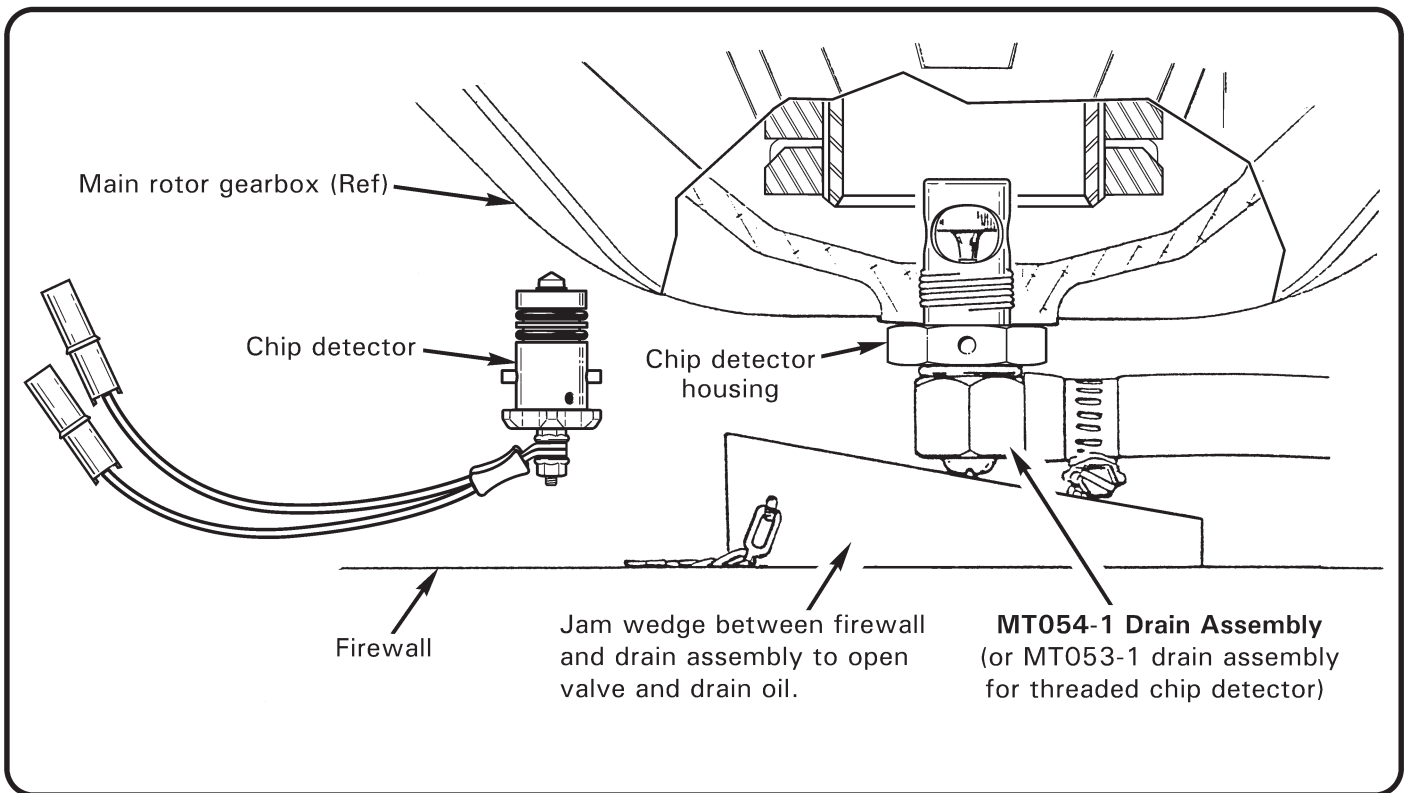

FIGURE 22-1 DRAINING MAIN ROTOR GEARBOX
3. Refer to Figure 22-1. Insert MT054-1 drain assembly (or MT053-1 drain assembly for threaded chip detector) into housing. Position drain hose overboard into a suitable drain container. Jam wedge between firewall and drain assembly to open valve and drain oil. Remove drain assembly after oil has drained.
3. Refer to Figure 22-1. Insert MT054-1 drain assembly (or MT053-1 drain assembly for threaded chip detector) into housing. Position drain hose overboard into a suitable drain container. Jam wedge between firewall and drain assembly to open valve and drain oil.